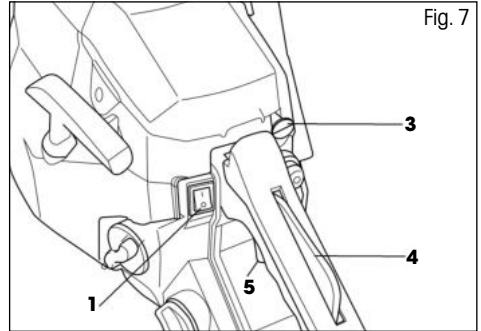

Fig. 7
1. Set the power switch to the "I" position. (see Fig. 7, point 1)
2. Pull out the choke lever (Fig. 7, point 3) to the "OFF" position (=air supply turned off, i.e. choke turned on).
4. At this point, push the choke lever (Fig. 7, point 3) downwards to the "ON" position (=air supply turned on, i.e. choke turned off) and start the engine by repeatedly pulling on the starting cord.
1. Set the power switch (Fig. 7, point 1) to the "I" position.
- ☼ To increase speed, first use the palm of your hand to push down the throttle safety switch (Fig. 7, point 4) and then use your finger to pull on the throttle trigger (Fig. 7, point 5)
- ☼ Release the throttle trigger (Fig. 7, point 5) and switch the power switch (Fig. 7, point 1) to the "0" position.